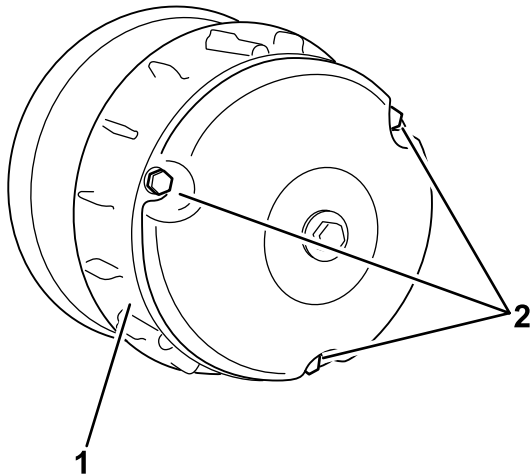

Figure 69
2. Remove the 3 bolts securing the cover to the clutch, and remove the cover (Figure 69).
4. Install the clutch cover and secure it with the 3 bolts (Figure 69) that you removed in 2.